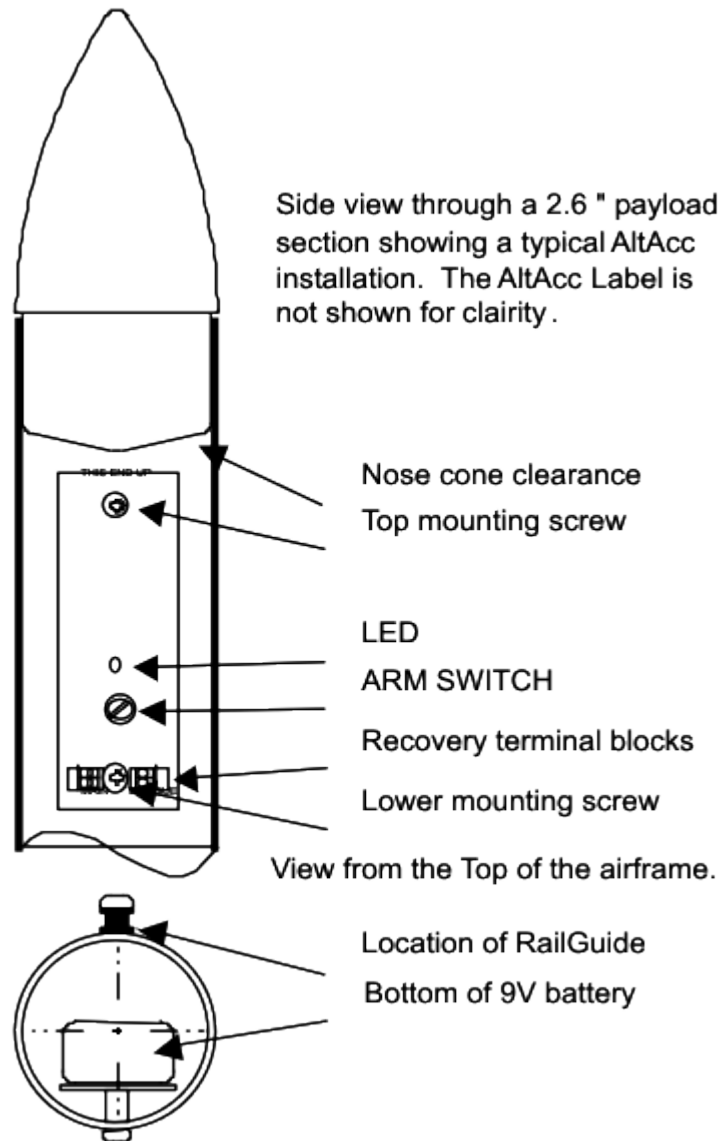

FIGURE 1 – AltAcc Installation
1.1 INSTALLATION – Install the **AltAcc** with the supplied self-adhesive label. The label is on the outside of the airframe and the **AltAcc** mounts behind it inside of the airframe. FIGURE 1 illustrates **AltAcc** mounting.